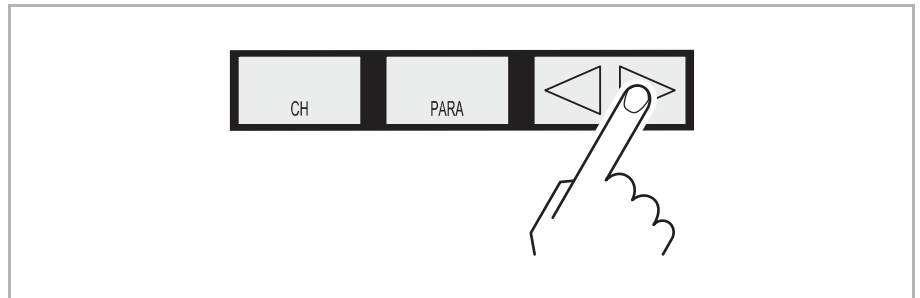

Fig. 4-4 Press the UP button for 1 second
- 2 Keep the UP button pressed for approximately 1 second. See Fig. 4-4, 30.